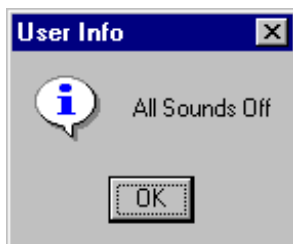

FIGURE 42. Sounds Off Dialog
- 8.76 Touch the 'OK' button for the Sounds Off dialog. See Figure 42.